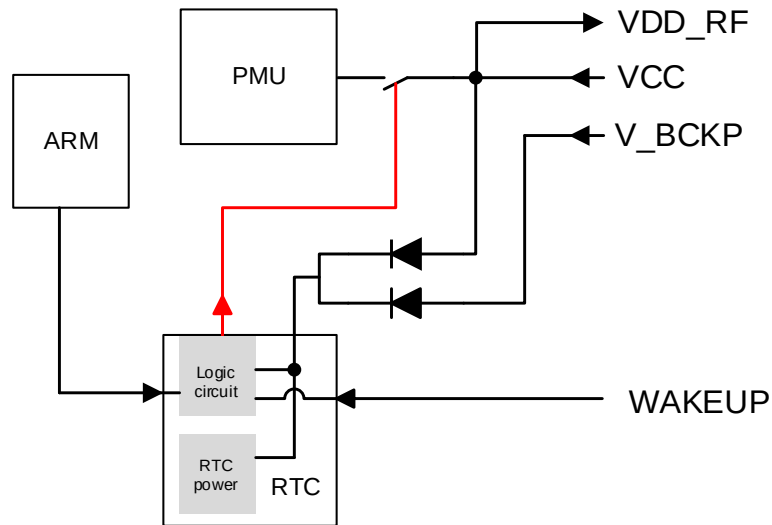

Figure 3: Internal Power Supply
The two diodes in the following figure construct an OR gate to supply power for RTC domain. WAKEUP pin belongs to RTC domain. The signal shown as red line in Figure 3 can open and close the switch. The following steps will close or open the switch:
- Keep the WAKEUP pin open or low (the signal shown as red line in **Figure 3**) and send software command to enter Backup mode. The only way to wake up the modules is by pulling the WAKEUP pin high (signal shown as a red line in **Figure 3**). For more information about the command, see **document [1]**.